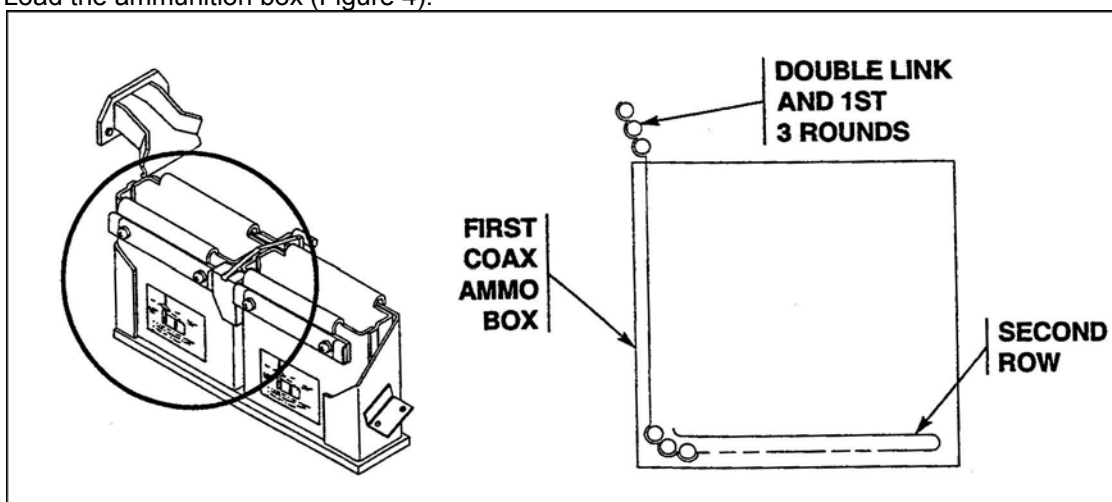

Figure 4. Ammo box first section.
3. Load the ammunition box (Figure 4).